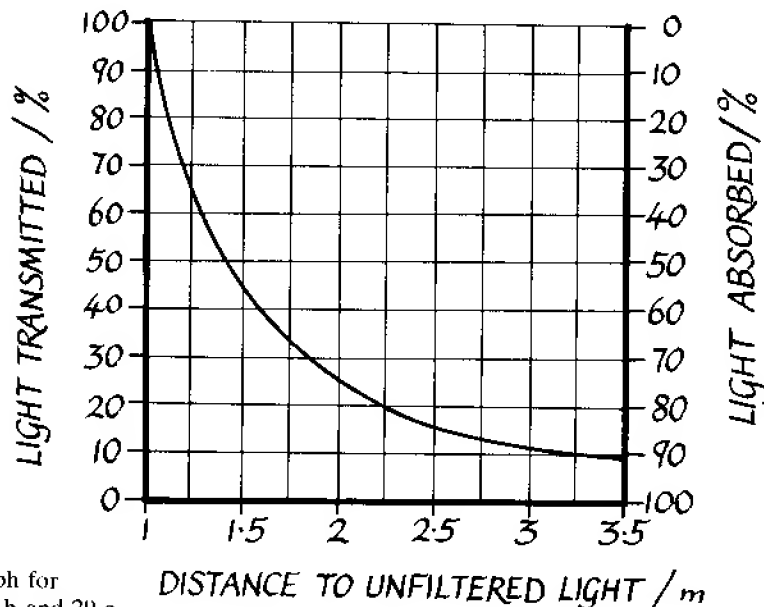

Figure 29.4 Graph for Investigations 29.b and 29.c
- Measure the distance between the filament of this lamp and refer to the graph in Figure 29.4 to find the percentage of light transmitted by the lens of the sun glasses.
6. By measuring the distance between the filament of this (unfiltered) lamp and the screen and using the graph in Figure 29.4, find the percentage of light transmitted by the lens of the sun glasses.
If you place the filtered lamp 1 metre from the metal foil and adjust the distance of the unfiltered lamp until the edges appear to be the same brightness, you can find the percentage of light transmitted by the lens of the sun glasses by referring to the graph in Figure 29.4.